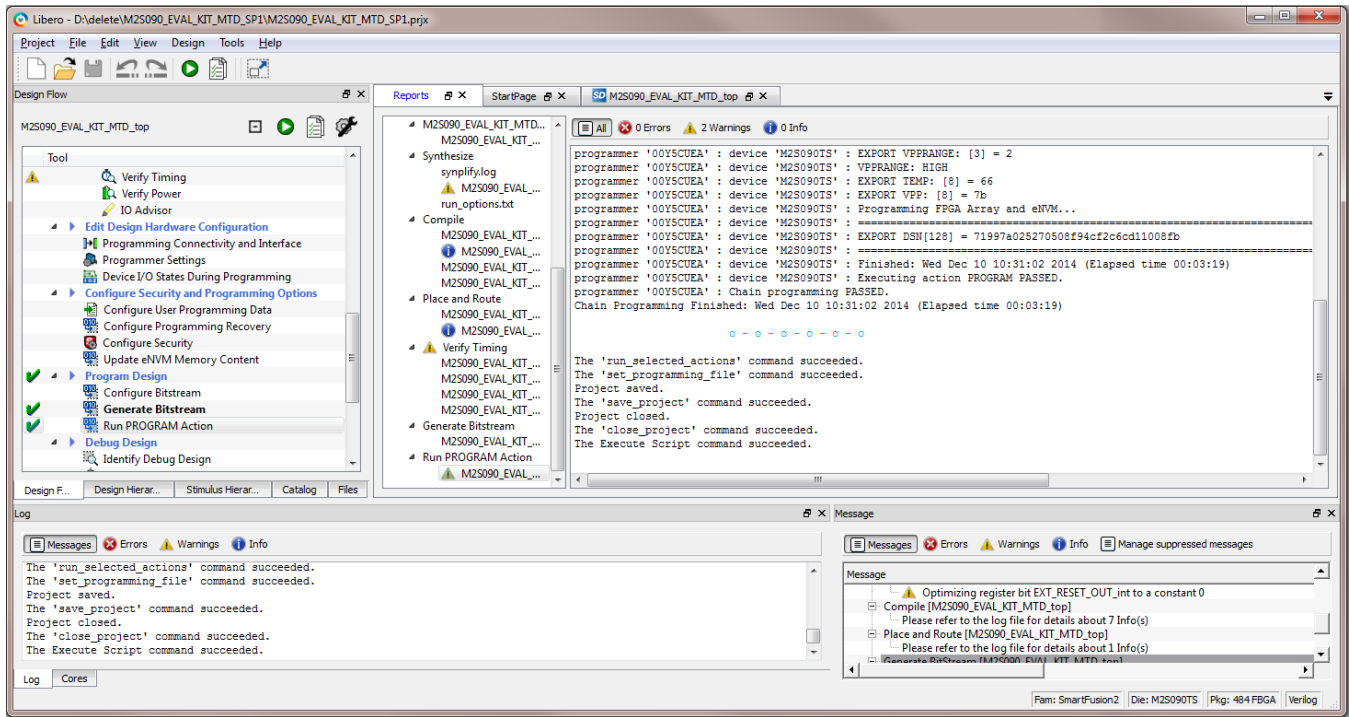

Figure 29 Successful Run Program Action
12. Once the device is programmed, LEDs at E1 and F4 will glow and window is displayed as shown in Figure 29.